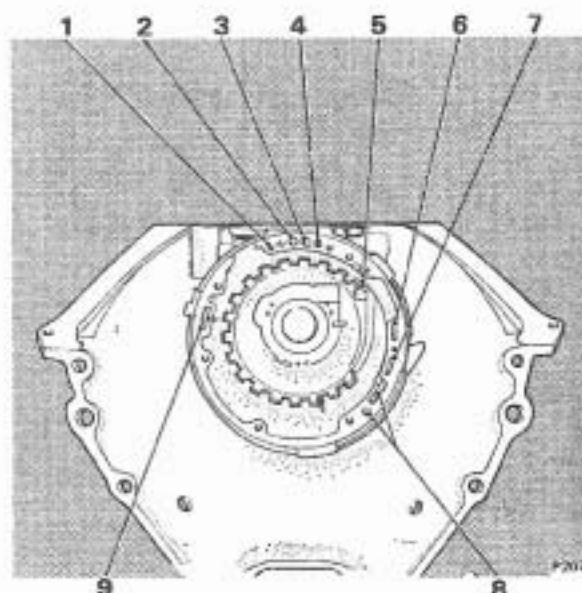

FIG. T290 TRANSMISSION CASE OIL PASSAGES
4. During internal inspection of the case also check for a loose or missing intermediate clutch cup plug, for identification refer to Figure T290; if necessary, fit a new plug.